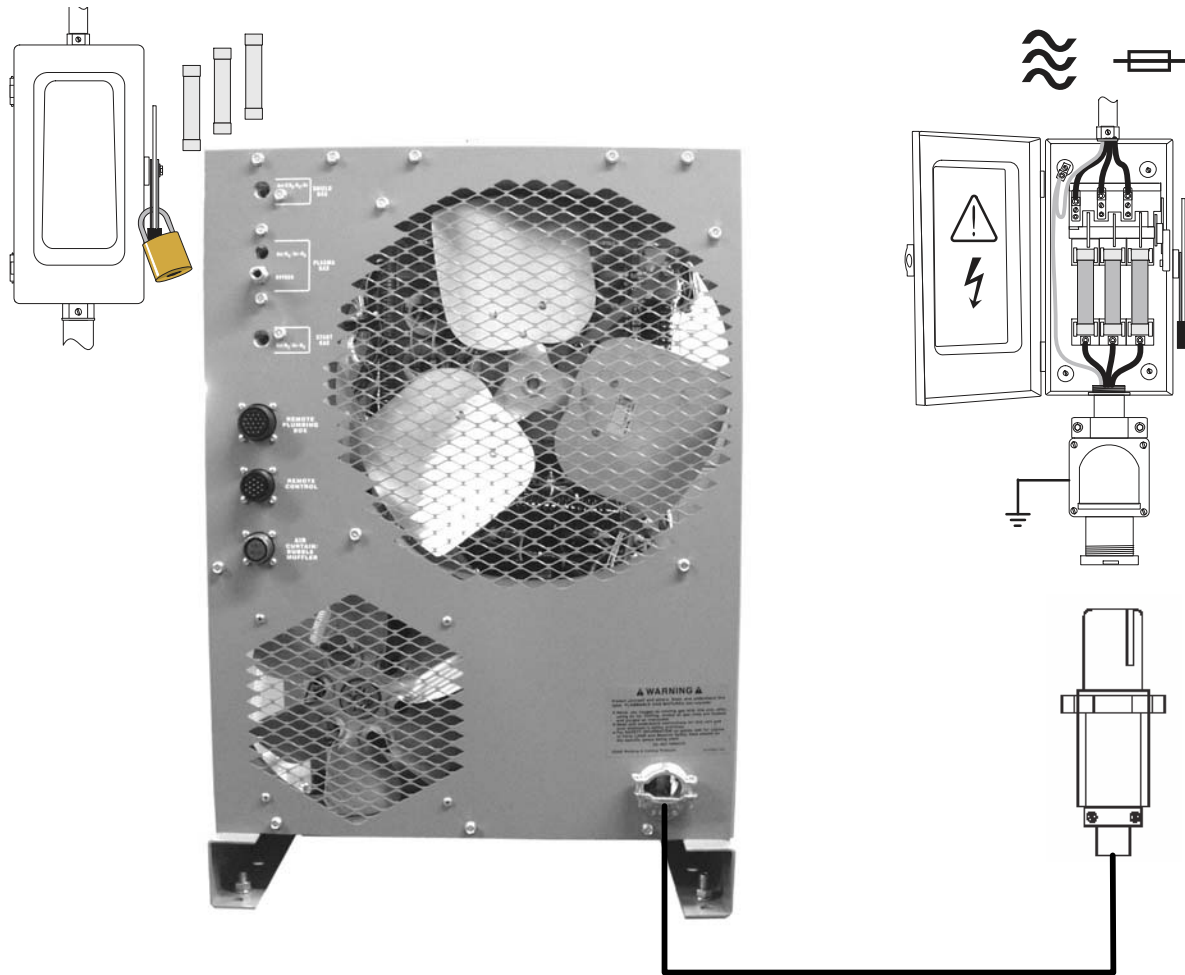

Fig 3 Typical installation - User supplied 3 Phase fused power disconnect box with receptacle and plug.
1. A line (wall) disconnect switch, with fuse or circuit breakers, should be provided at the main power panel. See Fig. 3. The primary power leads should be insulated copper conductors, and include three power leads and one ground wire. The wires may be heavy rubber covered cable, or may be run in a solid or flexible conduit. Refer to Table 1 for recommended input conductors and line fuse sizes.